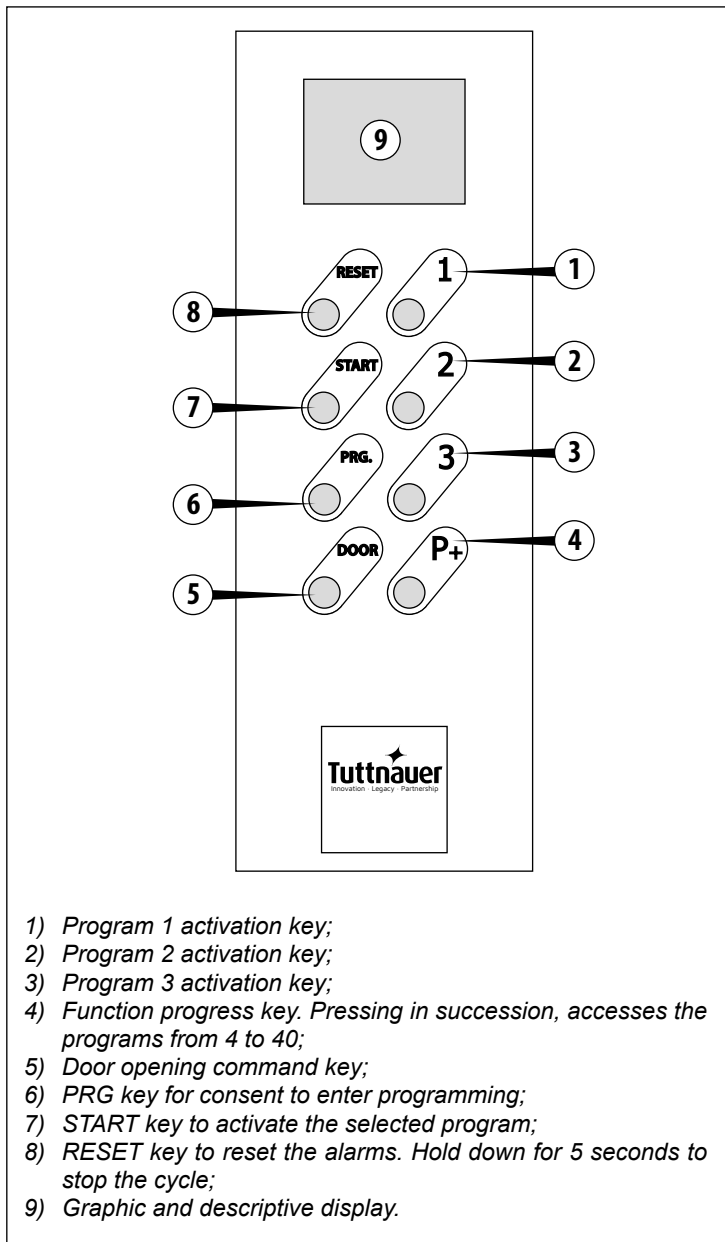

Fig. 12 - Control panel
To select the programs available, use key 1, 2 or 3 (on the control panel Fig. 12) depending on the most suitable program for the level of dirt of the load.